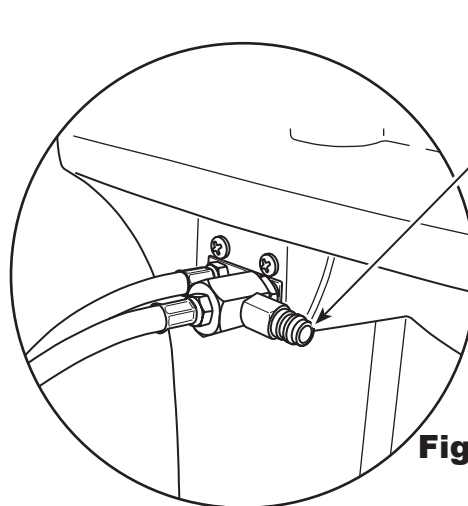

Figure 28
1. With the machine still connected to the vehicle and the couplers open, connect the low-side (blue) coupler from the 25700 to the contaminant recovery port on the back of the AC1234-6. See Figure 28. Open the coupler valves.